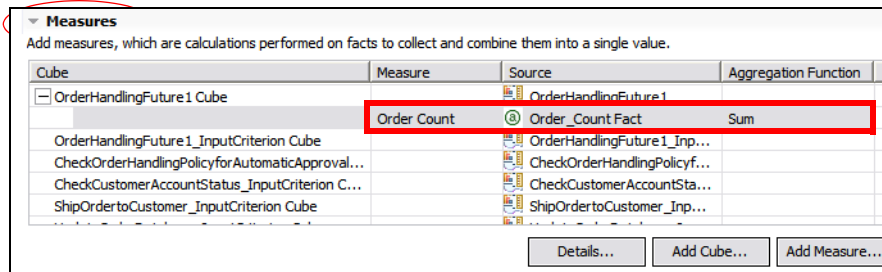

Figure 12-31 Aggregation function for Order Count measure
- ▶ For the Aggregation Function, select *Sum* (Figure 12-31).